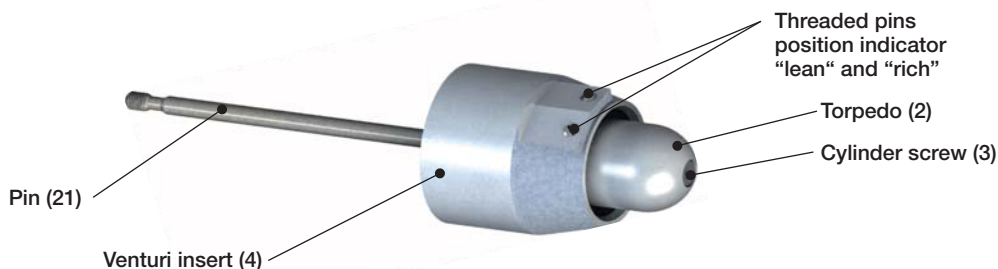

Fig 8: Venturi insert unit with adjusting pin and torpedo
Then unscrew the inspection glass (15) from the mixer body. Unscrew the cylinder screw (16) and remove it from the mixer body together with the bush (17). Check the bush for wear and replace it if there is significant wear. Now the venturi insert with the pin and torpedo unit (Figure 8) can be pulled out of the mixer body.